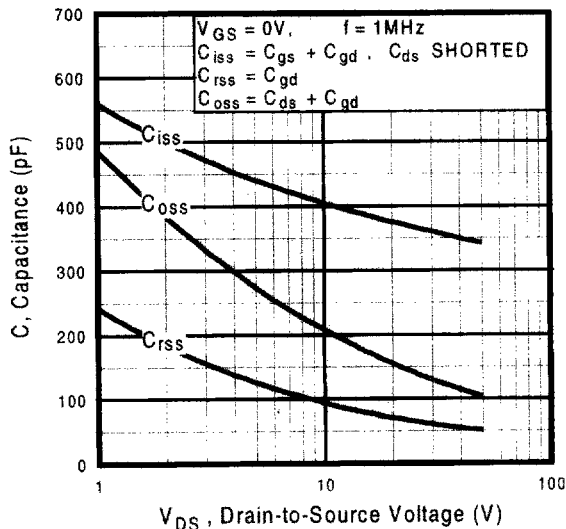

Fig 5. Typical Capacitance Vs. Drain-to-Source Voltage
| C_{rss} | Reverse Transfer Capacitance | — | 65 | — | | $f = 1.0\text{MHz}$, see figure 5 ⑥ |